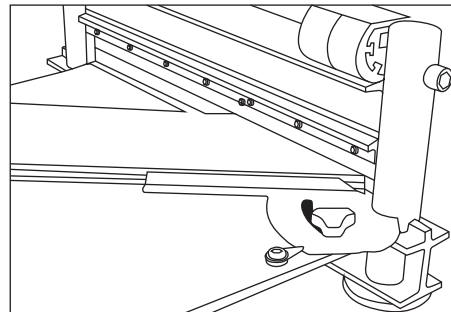

FIGURE 5
1. Adjust the angle attachment to 45° and tighten the knob. Insert material between the cutting blade and the base, flush with the angle attachment (Fig. 5). Push the handle down to complete a cut.